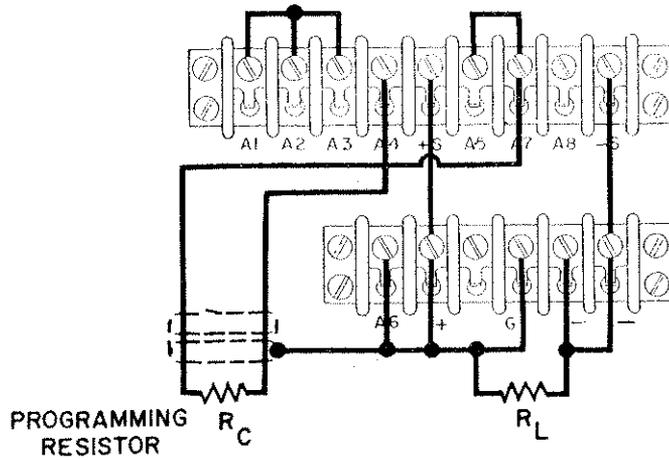
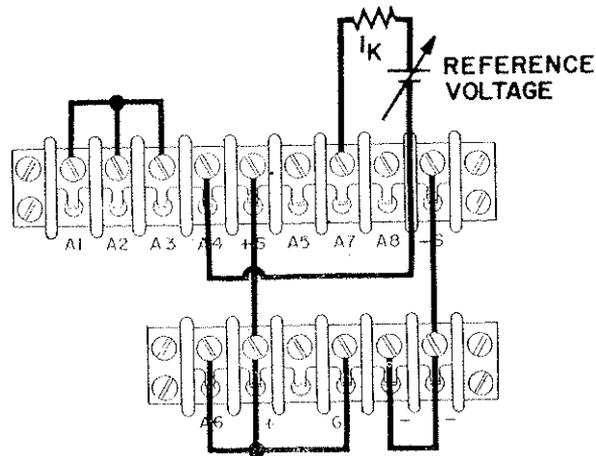

FIG. 3-6A REMOTE RESISTANCE PROGRAMMING CONSTANT CURRENT
FIG. 3-6B (VOLTAGE PROGRAMMING) REMOTE PROGRAMMING CONSTANT CURRENT
- a. Resistance Programming (See Figure 3-6A)
- (1) Stable, low noise, low temperature coefficient (less than 30 ppm per degree Centigrade) programming resistors should be used.
- (2) The output current will vary at a rate determined by the programming coefficient. (See Remote Programming in Specifications). The programming coefficient is determined by the programming current which can be varied by means of an internal adjustment.
- b. Voltage Programming (See Figure 3-6B)
- (1) The output current will vary in the following manner: